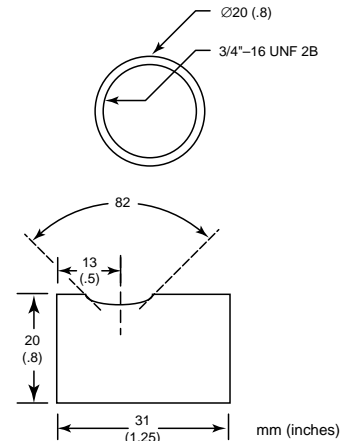

Figure 10: Right Angle Mirror
**Right Angle Mirror**—The right angle mirror accessory (Figure 10) allows a perpendicular view of a target. It may be used when space is limited or when you need to avoid excessive radiation to the sensor. This can be mounted either on the end of the sensor or on the air purge collar, but not on the air/water-cooled housing.